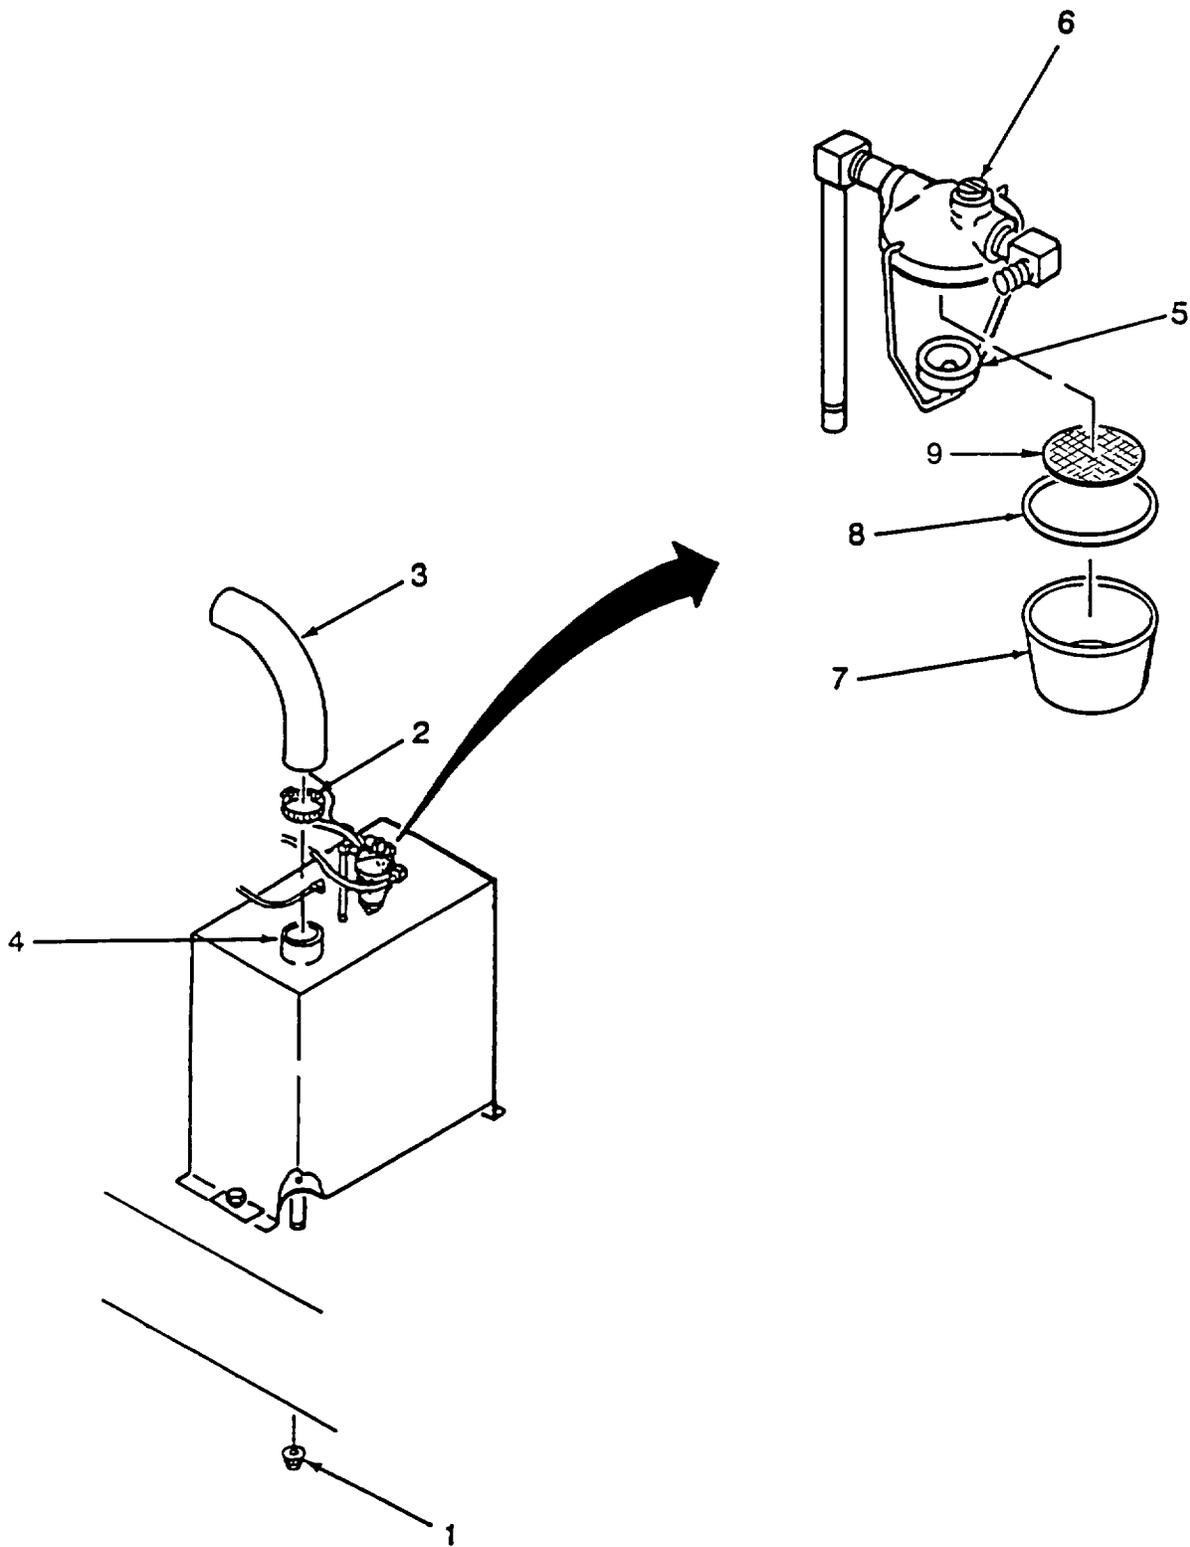

Figure 4-9. Fuel Tank Assembly
a. Service. (Refer to Figure 4-9.)
(1) Drain diesel fuel into suitable container by removing cap (1).
(2) If diesel fuel appears contaminated or contains water, or if rough or erratic engine operation has been noticed, clean system thoroughly.
(3) Loosen clamp (2) and slide hose (3) off of fuel tank inlet (4).
- (4) Thoroughly flush out fuel tank inlet (4) with dry-cleaning solvent.
- (5) Loosen knob (5) on bottom of fuel strainer (6) and remove glass bowl (7), gasket (8) and screen (9). Check for loose sediments, or water. Empty glass bowl into appropriate container and clean inside of glass bowl with dry-cleaning solvent